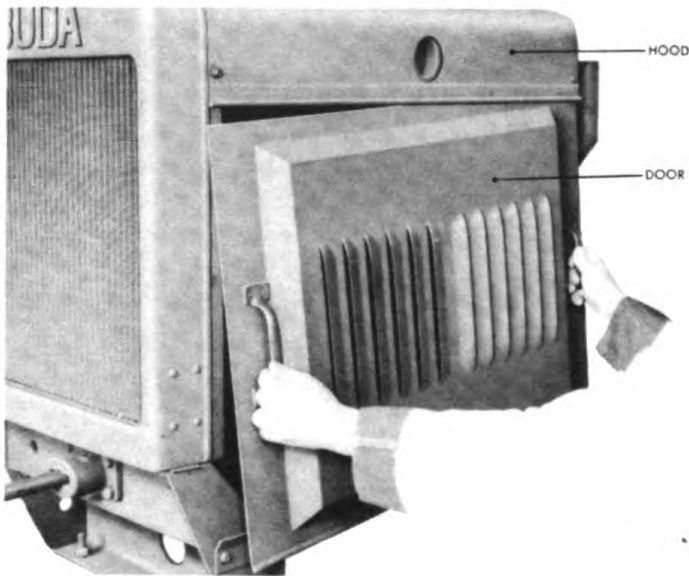
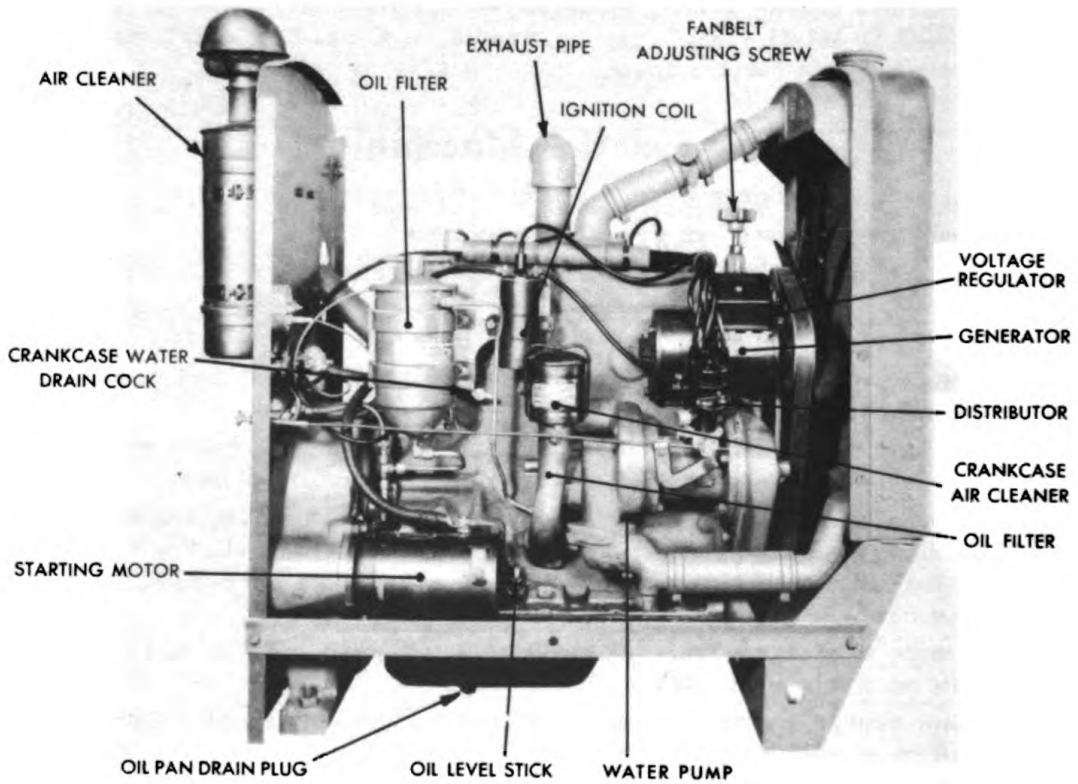

Figure 127. Removing Sliding Doors and Sills.
Figure 128. Right Side of Engine.
Remove the two sliding doors, exhaust pipe, figure 127 and the two steel strips that connect the front to the back panel; drain oil, gasoline, and water from the engine. Remove the drain cocks from the side of the engine and bottom of water pump. See figure 128.
- b. Remove the two square nuts that hold the flywheel housing to the chassis. See figure 128.
Remove the distributor by removing the capscrew that holds the distributor gear shaft in the engine well and pull off. Loosen set screw holding bracket and take off. See figure 128.